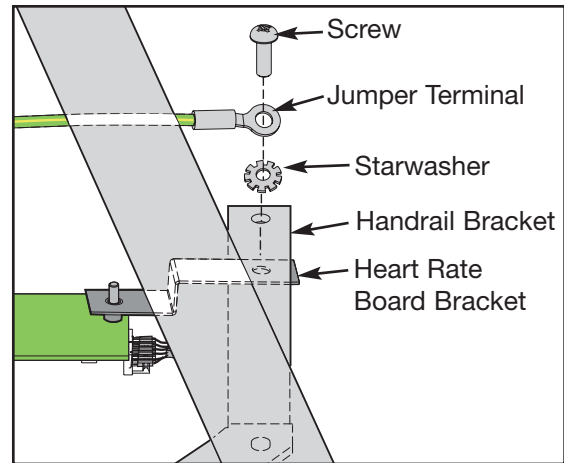

Figure 28
- A. Using a Phillips head screwdriver, remove the nine **black** screws securing the console front to the handrail. **NOTE:** Do not lose the screw and starwasher shown in Figure 28.
A. Place the starwasher next to the handrail bracket metal and hold the jumper terminal on top. See Figure 28.
B. Place the Phillips head screw removed in step 4A through the terminal, starwasher, handrail bracket and heart rate bracket and secure it tightly using a screwdriver. See Figure 28.